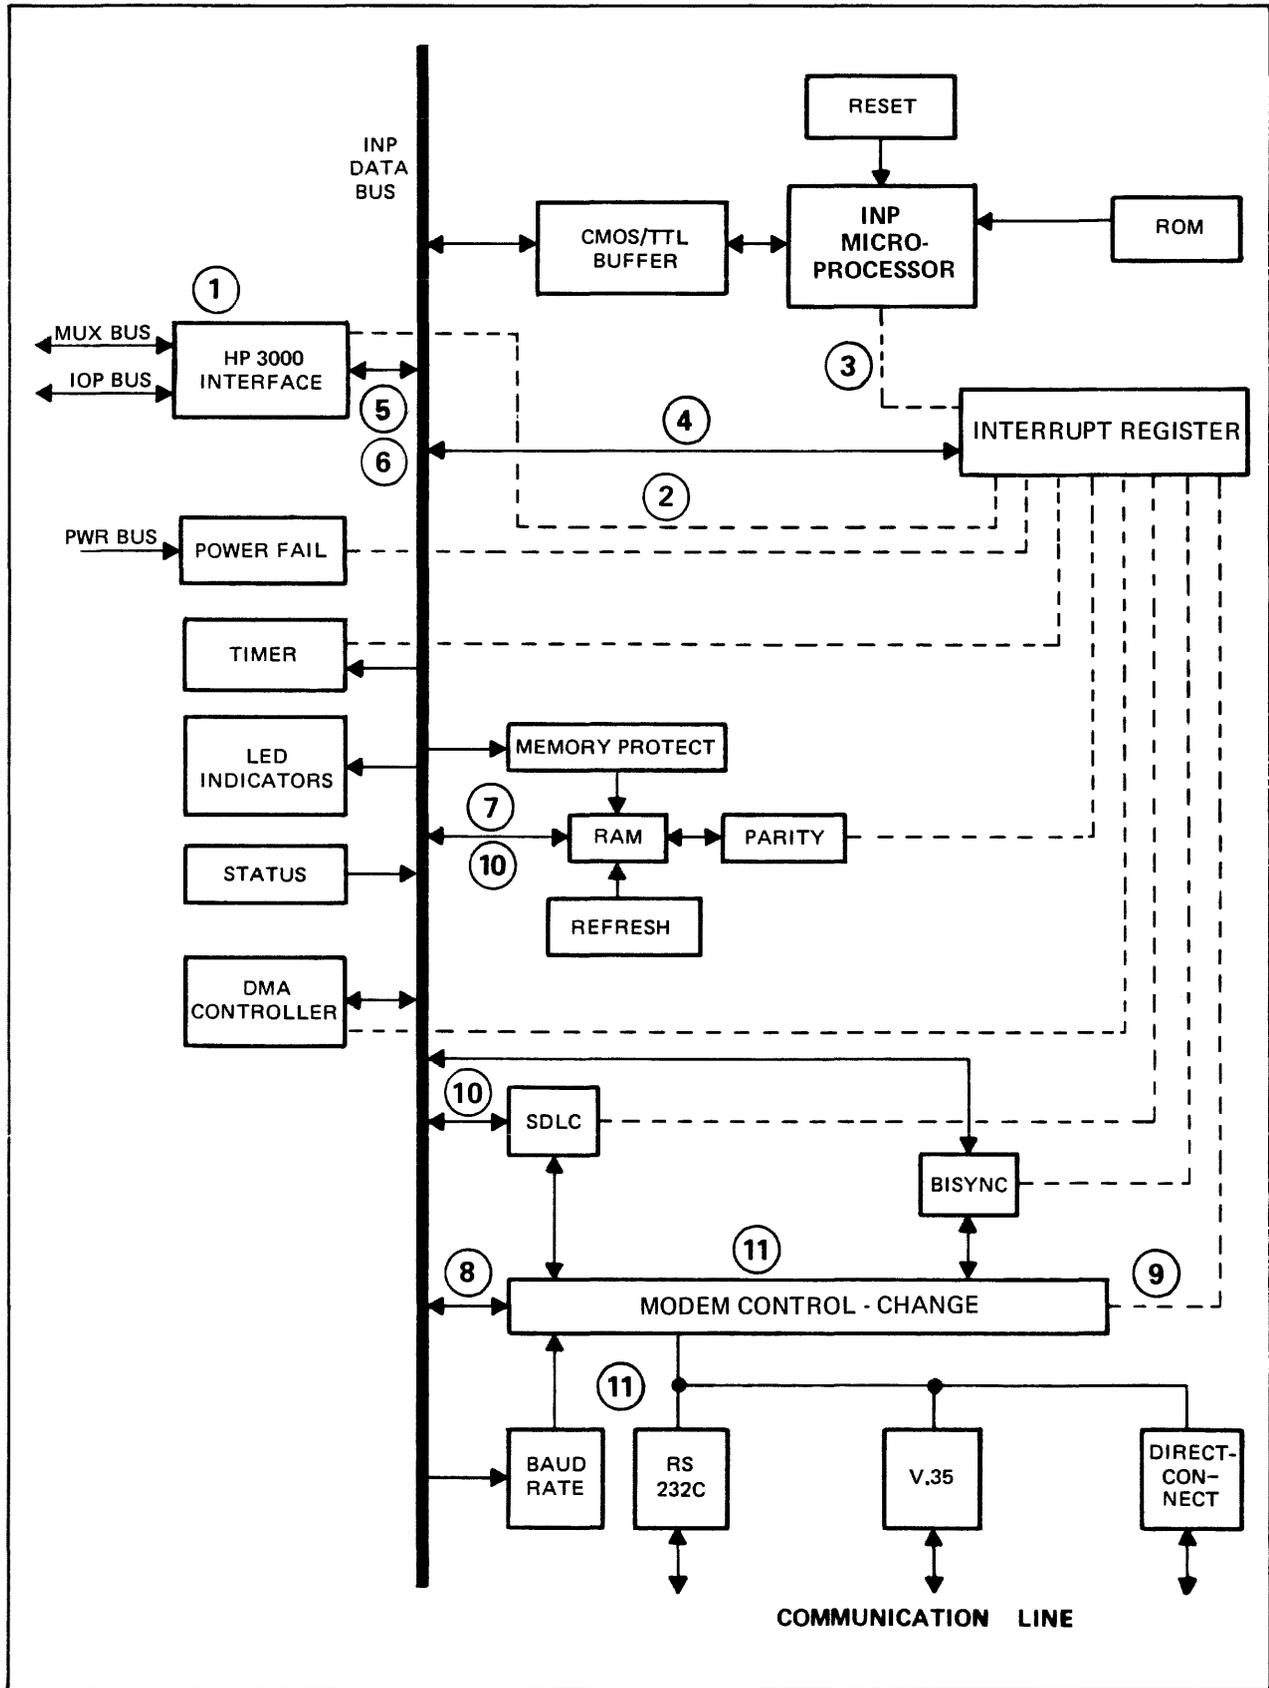

Figure 4-1. HP 30010A INP Block Diagram
A block diagram of INP organization of the major functional areas is shown in figure 4-1. The solid interconnecting lines in the block diagram represent data paths while the broken lines indicate service request paths.
In the following typical message transmission sequence, a modem telephone line is assumed as the communications medium. References are made to the functional areas, data paths, and service request paths within the block diagram in figure 4-1. The data paths and service request paths being referenced are identified in the diagram by circled numbers.
The flows from the HP 3000 into memory are represented by (6) and (7) in figure 4-1. Upon receiving a full block, the INP Microprocessor raises RTS, (8), and sets up an interrupt for when the modem returns CTS. When CTS becomes active, an interrupt is generated to the INP Microprocessor, (9). The INP Microprocessor then sends data from the INP RAM to the datacomm